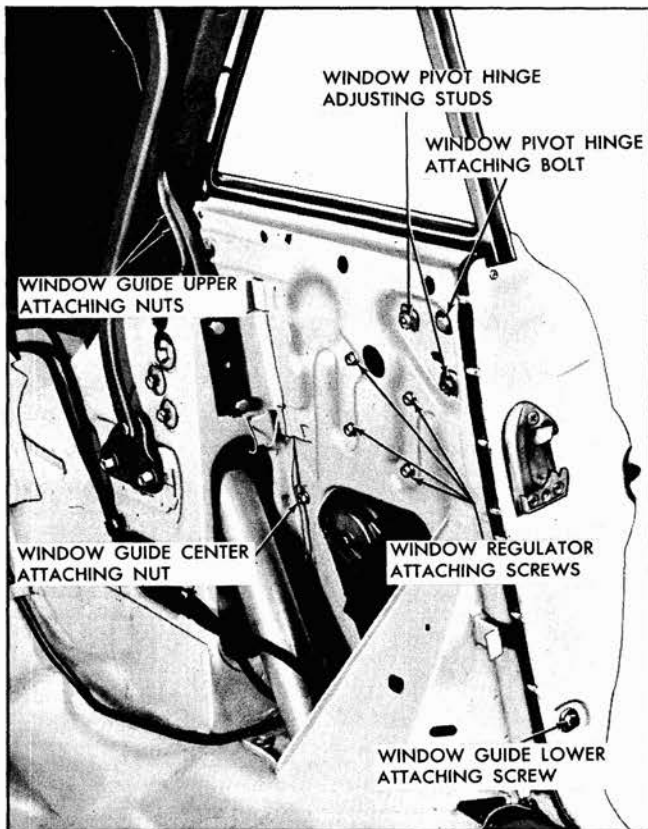

Fig. 4-6 Rear Quarter Hardware - "67" Style
3. Remove window pivot bolt (Fig. 4-6). Disengage window male hinge from female hinge plate; then raise window to disconnect window lower sash channel cam from roller on window regulator lift arm and remove window.
up travel, loosen the window guide upper attaching screws (Fig. 4-6); then adjust upper stop to desired position and tighten guide attaching screws.
a. Up or down or fore or aft window adjustment: Loosen pivot bolt and both adjusting stud nuts (Fig. 4-6). Position window as required; then tighten pivot bolt and stud nuts.
b. In or out adjustment of top of window: Loosen lower adjusting stud nuts and slightly loosen rear stud nut. Adjust lower stud in or out, as required; then tighten both stud nuts (Fig. 4-6).
c. In or out adjustment of rear window: Loosen pivot hinge rear adjusting stud nut and (slightly) lower adjusting stud nut. Loosen window guide upper attaching nuts and center stud nut (Fig. 4-6). Adjust rear adjusting stud in or out, as required, then tighten both stud nuts. Adjust window guide for proper alignment with window and tighten upper attaching nuts and center stud nut.
5. Remove regulator attaching screws (Fig. 4-6). Disengage regulator lift arm roller from window lower sash channel cam and remove regulator.
3. Remove window guide upper and center attaching nuts and lower attaching screw (Fig. 4-6). Disengage window guide and remove guide through large access hole.